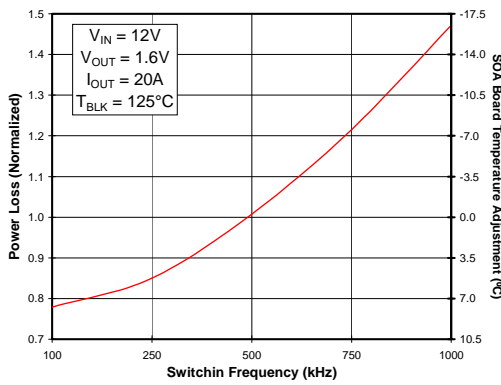

Fig 5. Normalized Power Loss vs. Frequency
- (Fig. 5) Normalized power loss for frequency ≈ 1.225
- (Fig. 5) Normalized SOA PCB Temperature for frequency $\approx -7.5^\circ\text{C}$